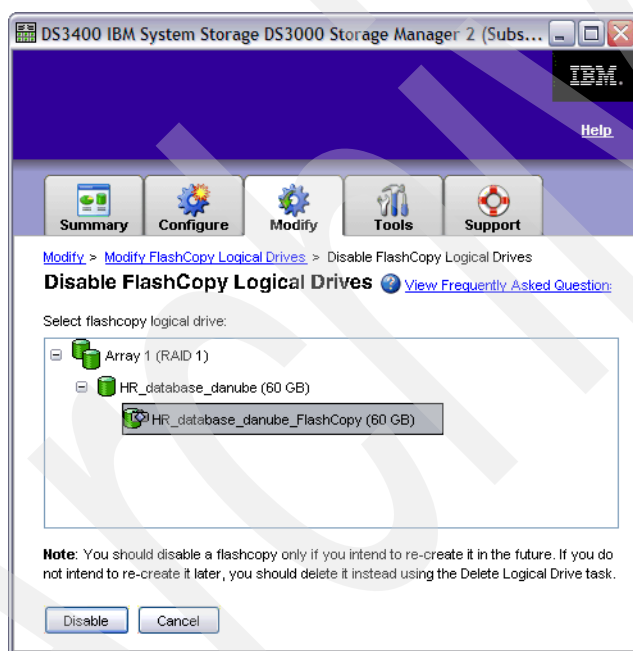

Figure 11-36 Modify - Disable FlashCopy Logical Drives
1. Click **Disable FlashCopy Logical Drives** to open the associated window (Figure 11-36).